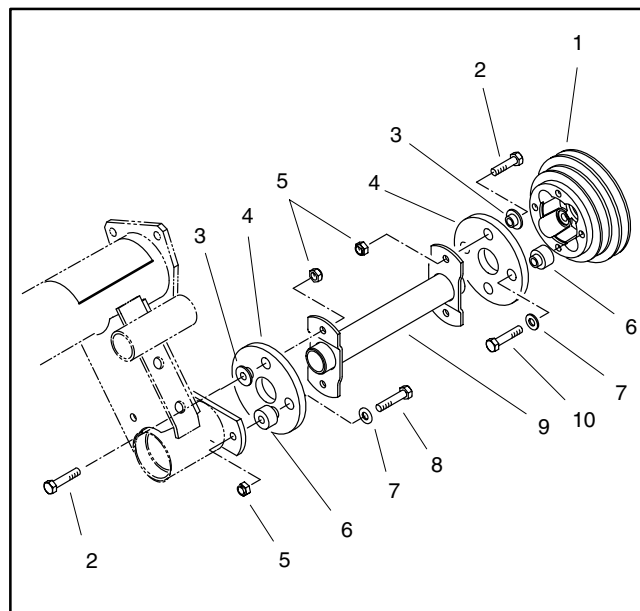

Figure 12
10. Remove four (4) cap screws (item 2) and lock nuts (item 5) that fasten both ends of hydraulic pump driveshaft to rubber couplers (Fig. 12). Locate and retrieve coupling spacers (item 3). Remove driveshaft.